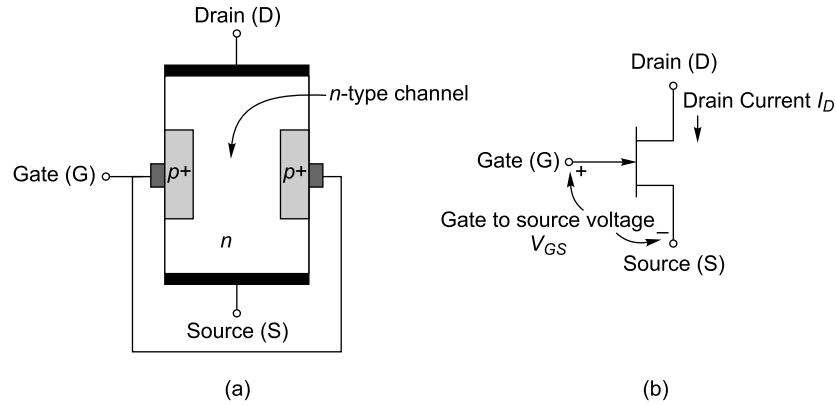

Fig. 1.4 (a) Simplified structure of an n-channel JFET (b) Symbol of JFET
One side of the ohmic contacts is called the source (S) and the other side is known as the drain (D). Source (S) is a terminal through which electrons can enter into the n -type semiconductor and the electrons leave the n -type semiconductor bar through drain (D) terminal. The most simplified representation of n -channel JFET is illustrated in Fig. 1.4.